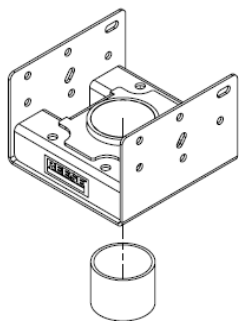
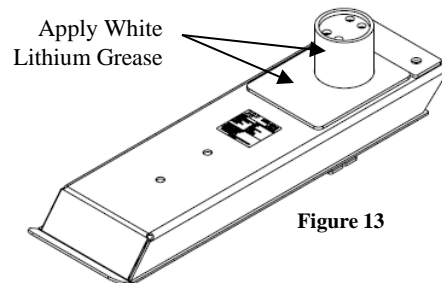

Figure 10
Figure 13
4. Install pivot bushing into the turret as shown in figure 10. Applying white lithium grease to the inner tube of the turret may ease assembly. Install wear plate onto sidewinder arm (Figure 11), be sure to place the chamfer facing down (Figure 12). Apply white lithium grease to the surfaces shown in figure 13, be sure to coat the entire surface.